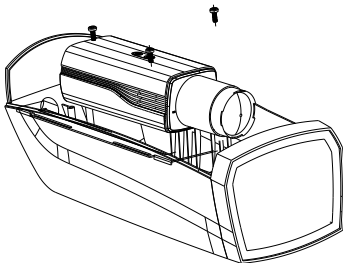

Figure 2-3 Fix the Camera in the Housing
4. Fix the back-plane with the camera in the camera housing. As shown in Figure 2-3.